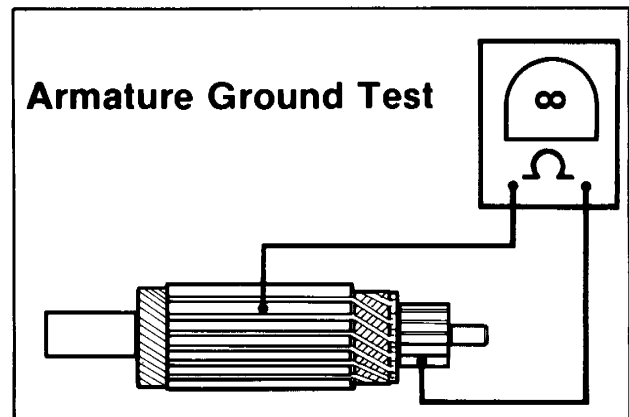

Figure 5-7. Testing for Grounded Armature
5. See Figure 5-7. Touch one probe of the ohmmeter to the armature core and the other probe to any commutator segment. There should be no continuity (infinite ohms). Any other reading indicates a grounded armature which should be replaced.